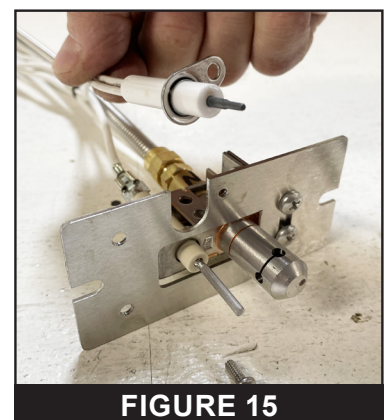

FIGURE 15
7. Remove the mounting screw securing the igniter and remove the damaged igniter. See **FIGURE 15**.